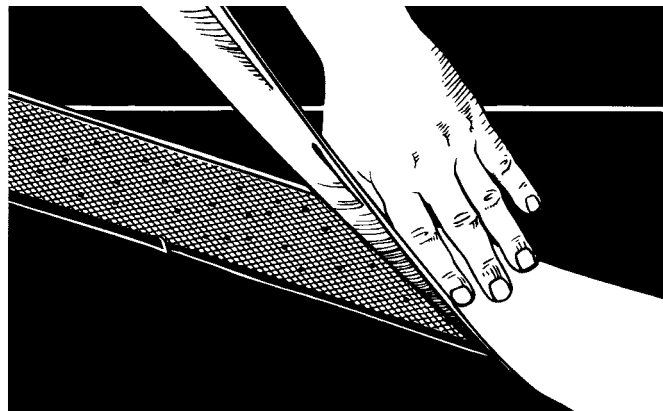

Fig. 11-15
36. Prick the fill-in gum with an awl to release trapped air. Cover with a cemented strip of release material 2 in. (50mm) wider than the gum strip (Fig. 11-15).